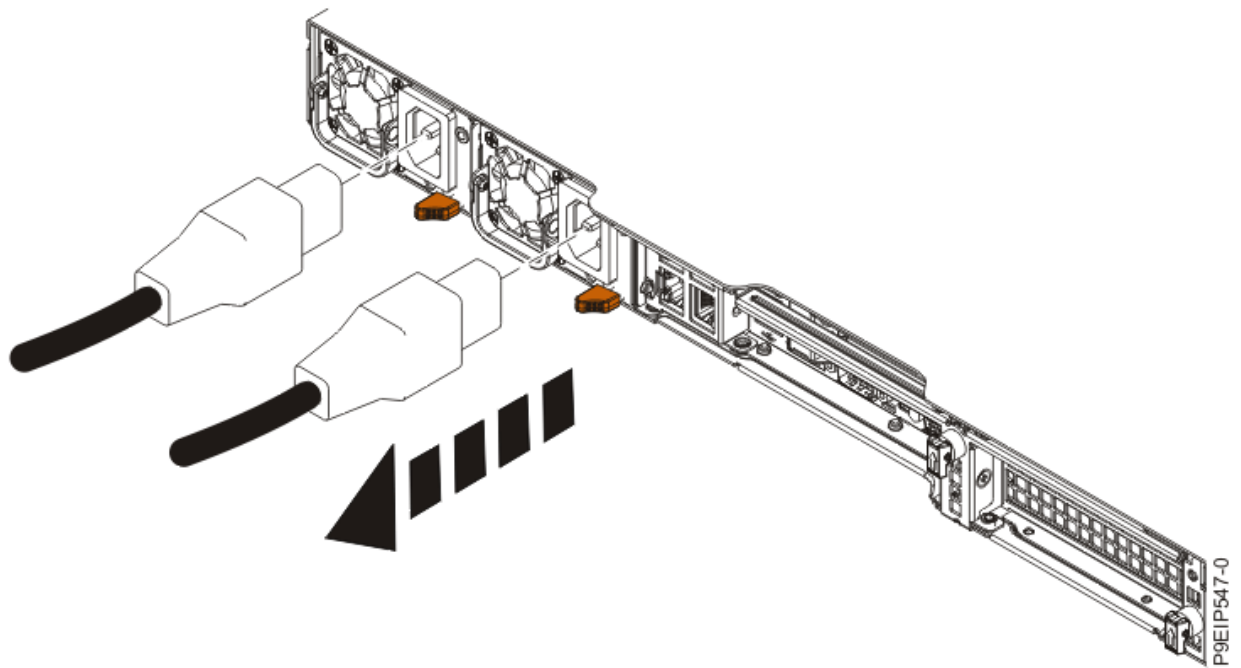

Figure 57. Removing the power cords from the system
2. Label and disconnect the power cords from the system unit as shown in Figure 57 on page 110.